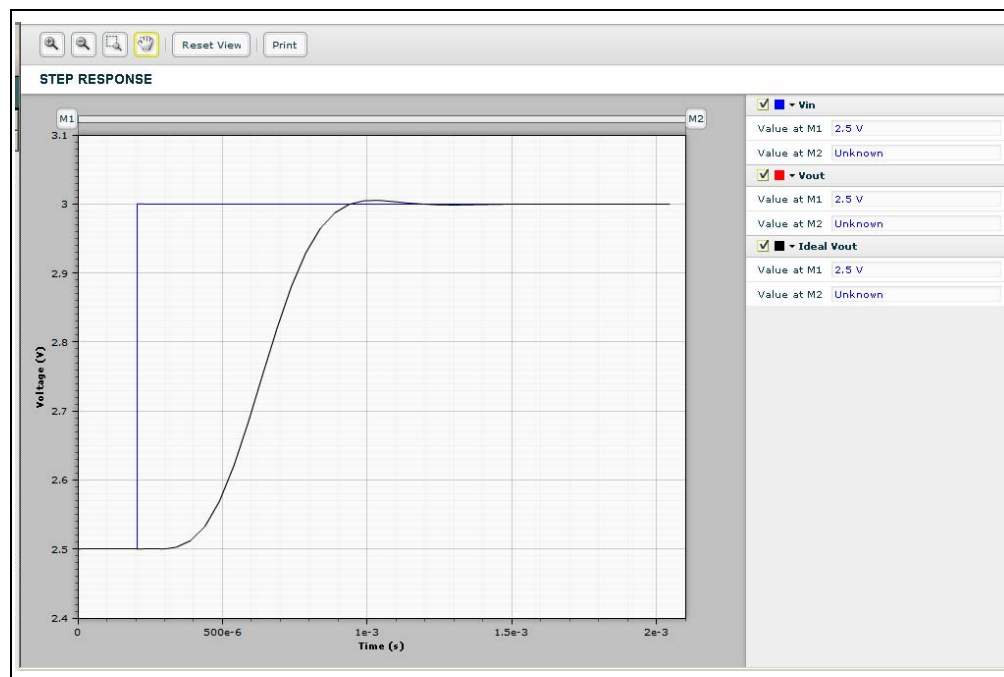

FIGURE B-6: Step Response with Bessel Approximation.
- Minimal overshoot and ringing in the step response (Figure B-6)
The step response of the 6th order Low-pass filters with Bessel approximation is shown in Figure B-6.